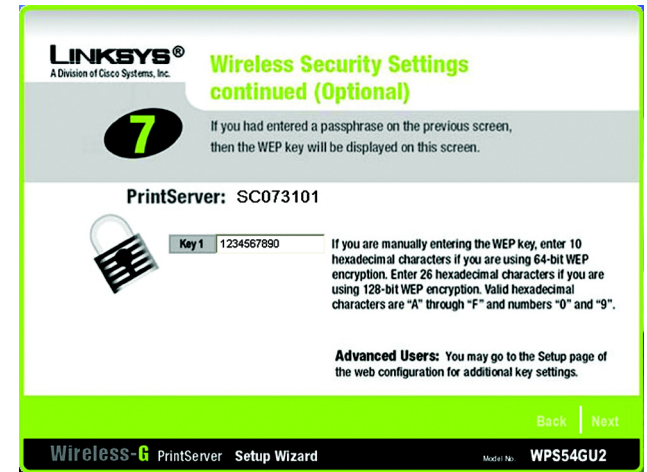

Figure 4-9: Wireless Security Settings - WEP Key
10. If you entered a Passphrase, you will see the automatically generated WEP key on the following screen, as shown in Figure 4-9. Otherwise, enter the WEP key manually in the field provided. If you are using 64-bit WEP encryption, then the key must consist of exactly 10 hexadecimal characters. If you are using 128-bit WEP encryption, then the key must consist of exactly 26 hexadecimal characters. Valid hexadecimal characters are "0"-"9" and "A"-"F". Click **Next**.